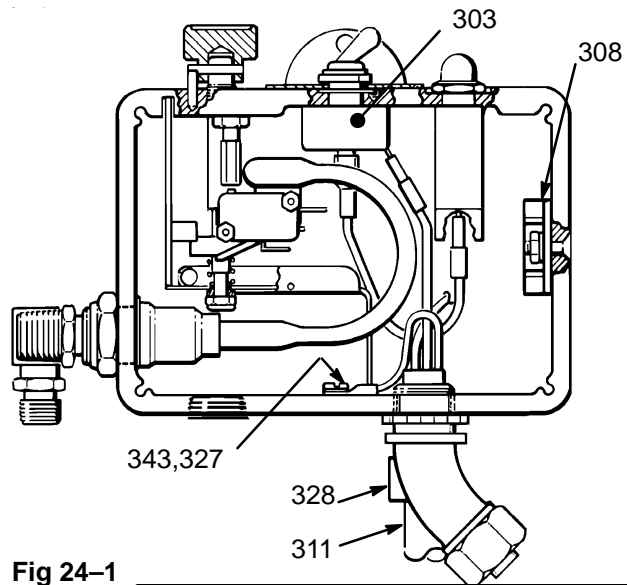

Fig 24-1
See Fig 24-1.
2. Use a needle nose pliers to disconnect the upper terminal wire from the microswitch (302) for ease in removing the ON/OFF switch (303). See Fig 24-1.
3. Use pliers to disconnect the two black wires from the ON/OFF switch (303). See Fig 24-1.
4. Use a 5/8 in. socket wrench to loosen and remove the nut and rubber boot (304) from the top of the pressure control box. Remove the switch guard (305).
6. Install the new switch so the internal tab of the anti-rotation ring (W) engages with the vertical groove in the threads of the switch, and the external tab engages with the blind hole (D) of the pressure control box.
7. Install the switch guard (305), aligning the internal tab with the groove in the threads.
8. Powder the inside of the rubber boot (304) with talcum, then shake excess out of boot.
10. Reconnect the wires to the ON/OFF switch (303) and reconnect the wire to the microswitch (302).